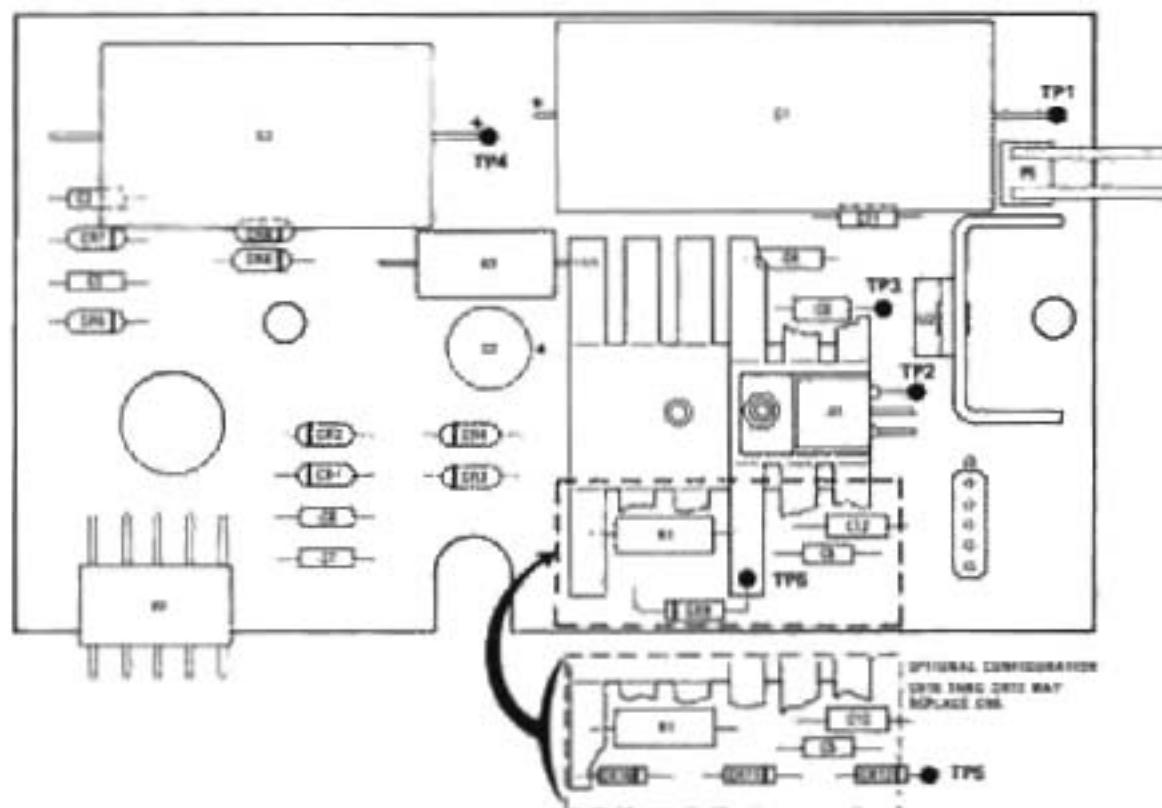

Figure 2-5 Test Points Location Diagram
c. Refer to Figure 2-5 PCB-Power Supply test points locations. With a DVM check for $+5V \pm 0.15V$ DC at TP2. (The voltages are referenced to ground TP1.)